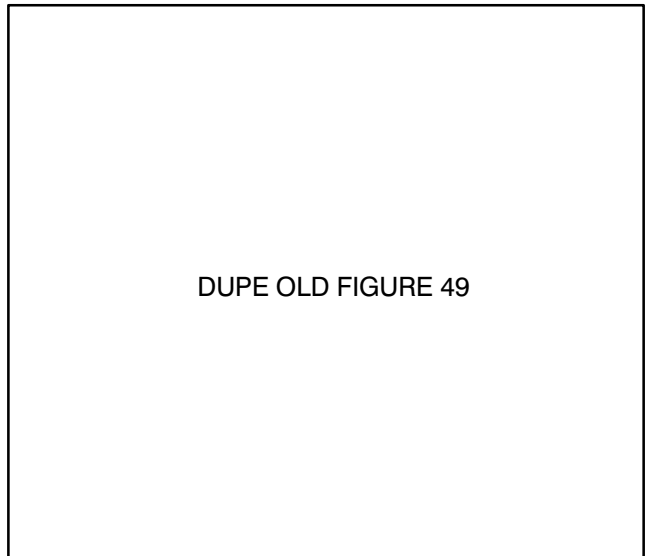

Figure 50
6. Using a brake adjusting tool or screwdriver, rotate star nut down until brake drum locks because of outward pressure of brake shoes (Fig. 50).
DUPE OLD FIGURE 50